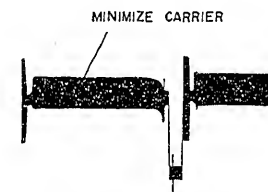

Fig. 4-8
8) R-Y, B-Y Setup Adjustment (Figs. 4-8, 4-52)
(Fig. 4-8)